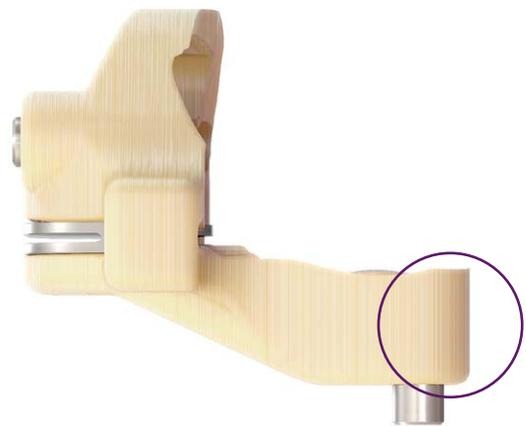

Figure 16
- c. After performing the distal femoral resection and removing the Guide, examine the posterior aspect of the Guide's arms. If an arm appears to be damaged by the Saw Blade, that respective condyle cut was likely undercut and out of plan. The Guide should be repositioned and the cut repeated (Figure 16).